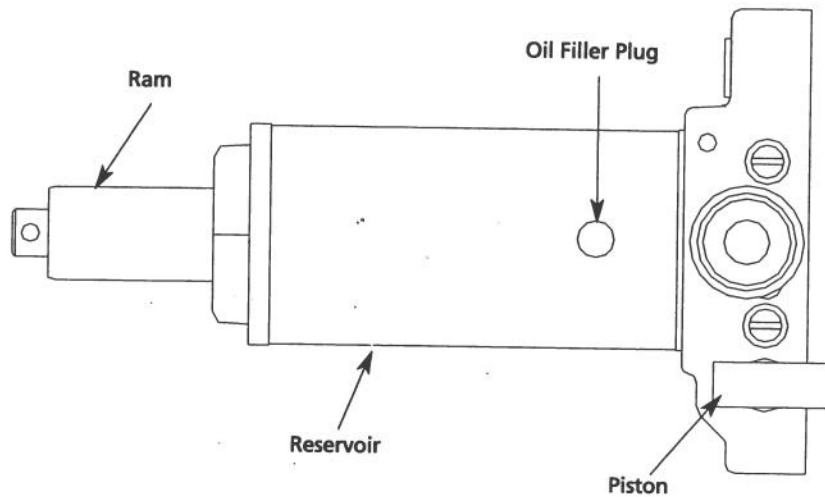

Figure 3 - Power Unit of Hydraulic Floor Jack
- Occasionally, hydraulic jacks become air bound during shipment and will not function properly. To correct this condition, remove oil filler plug (See Figure 3). This will allow any pressurized air to escape.
- Squirt a small amount of hydraulic jack oil on piston (See Figure 3) and thoroughly lubricate all moving parts of jack.
1. Position the jack on level ground and fully lower the saddle. Remove oil filler plug (See Figure 3).
Check ram (See Figure 3) every 3 months for any sign of rust or corrosion. Clean as needed and wipe with an oil saturated cloth.